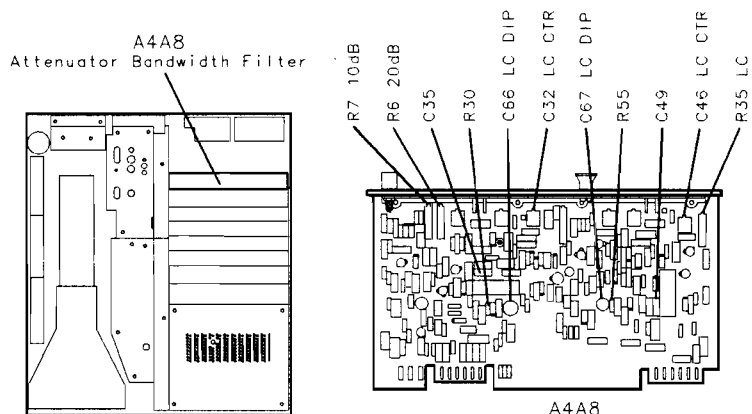

Figure 3-43.
29. Adjust A4A8C32 LC CTR and A4A8C46 LC CTR for maximum MARKER level as indicated by CRT annotation. See Figure 3-43 for location of adjustments. If unable to adjust A4A8C32 and A4A8C46 LC CTR adjustments for satisfactory signal amplitude, increase or decrease value of A4A8C35 and A4A8C49. Refer to Table 3-3 for range of values.
32. Adjust A4A8R35 LC to align markers on display. MARKER Δ level should indicate 1.00 X. See Figure 3-43 for location of adjustment.
47. Adjust A4A8R7 A10dB to align markers on display. MARKER **Δ** level should indicate 0.00 dB. See Figure 3-43 for location of adjustment.
49. Adjust A4A8R6 A20dB to align markers on display. MARKER **Δ** level should indicate 0.00 dB. See Figure 3-43 for location of adjustment.
65. Adjust A4A8C66 LC DIP for minimum amplitude of signal peak. See Figure 3-43 for location of adjustment. Key in MARKER **PEAK SEARCH** MARKER **Δ**, and then press MARKER **PEAK SEARCH** and re-adjust LC DIP to offset the signal peak approximately -17 kHz (to the left). If unable to achieve a “dip” in signal amplitude, increase or decrease value of A4A8R30. Refer to Table 3-3 for range of values.
67. Adjust A4A8C67 LC DIP for minimum amplitude of signal peak. See Figure 3-43 for location of adjustment. Key in MARKER **PEAK SEARCH** MARKER **Δ**, and then press MARKER **PEAK SEARCH** and re-adjust LC DIP again to offset the signal peak approximately -17 kHz (to the left). If unable to achieve a “dip” in signal amplitude, increase or decrease value of A4A8R55. Refer to Table 3-3 for range of values.